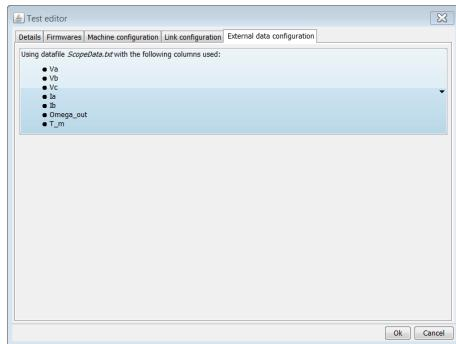

Figure 6.10: Click Create new Test to add a new Test in the Test Sequence.
- *Details*, , is shown in Figure 6.10;